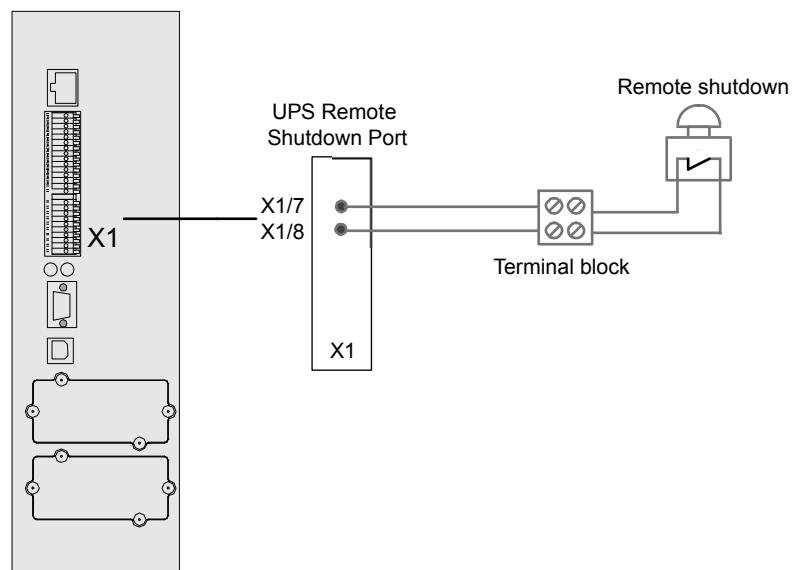

Figure 6.1 Remote emergency stop cabling
2. Connect the cable as shown in Figure 6.1.